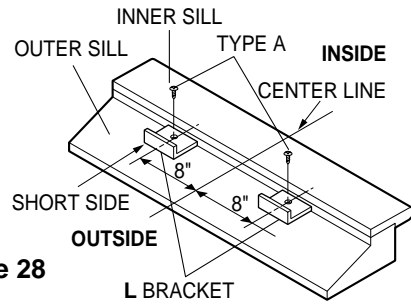

Figure 28
- a. Carefully lift the air conditioner and slide it into the open window. Make sure the bottom guide of the air conditioner drops into the notches of the L bracket. See Fig. 28.